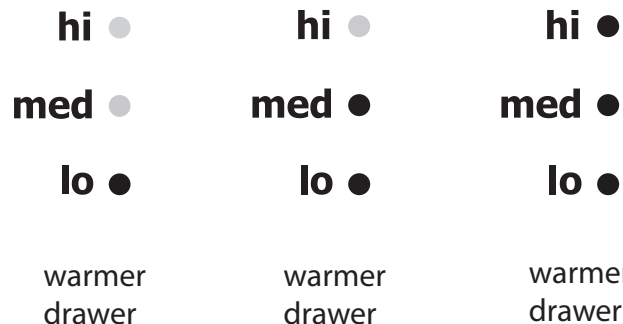

Figure 57: Warmer drawer settings
3. Press **warmer drawer**. The **lo** indicator light will turn on. To change the setting, continue to press **warmer drawer** to toggle between **lo**, **med**, and **hi**. (Figure 57)